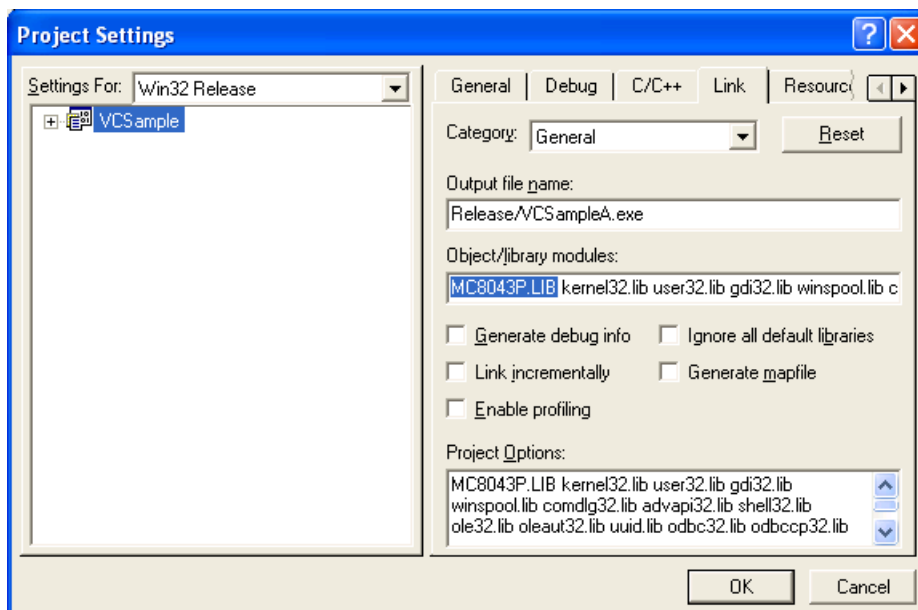

Fig. 9.3-1 VC++6.0 Project Settings
(See Fig. 9.3-1 VC++6.0 Project Settings)
- (1) Copy two files, MC8043P.lib and MC8043P_DLL.h in \Lib\VC6 folder to the application's folder to development.
- (2) Add MC8043P_DLL.h to your project in VC++ and delete the existing MC8041P.h from your project. Then change “#include MC8041P.h” to “#include MC8043P_DLL.h” in the source file. However, if you have added extra modification to MC8041P.h, the extra modification must be remained.
- (3) For VC++6.0 users, go to [Project] – [Settings] – [Link], and then delete “MC8041P.lib” from [Object/library modules], then designate “MC8043P.lib”. (See Fig. 9.3-1 VC++6.0 Project Settings)